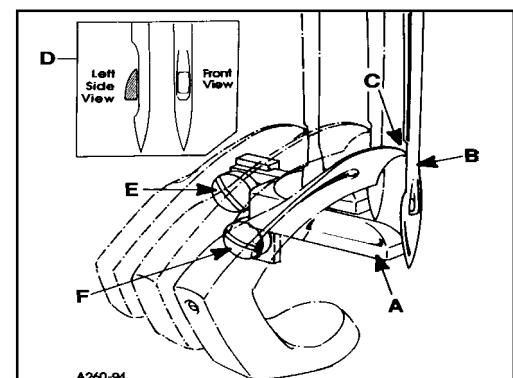
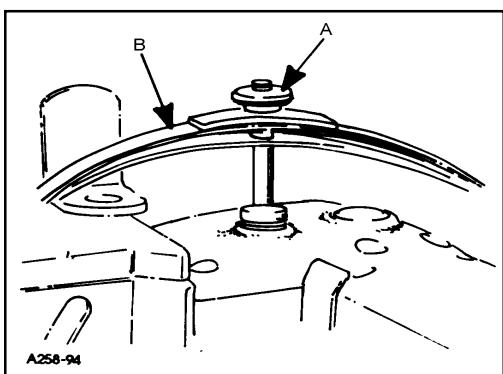
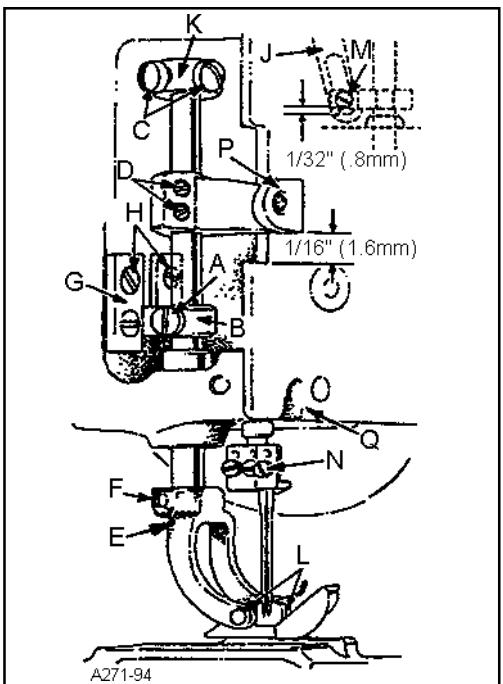

FIG. 13
FIG. 14
FIG. 15
Set the rear needle guard (A, Fig. 13) horizontally to touch and possibly deflect slightly to obtain solid guarding of all needles (B) when at its extreme forward position. If adjustment is necessary loosen screw (E) and move guard front to back as required. It should be set vertically as low as possible, yet have its guarding surface in contact with the needles until the points of the loopers (C), moving to the right, are even with the right side of the needles. If adjustment is necessary loosen screw (F) and move guard and holder up or down as required.
**NOTE:** When installing the needle it should be parallel with the eye in line of feed. If adjustment is necessary, loosen screw (N, Fig. 15) in needle head and rotate needle to attain adjustment (D, Fig. 13).
Remove presser bar leaf spring (B, Fig. 14) and nut (B). Loosen screw (A, Fig. 15) on presser bar guide (B). Loosen screws (C) in upper collar and screws (D) in needle lever thread pull-off lever.. Slide presser bar upward high enough to slip on presser foot yoke (E) with foot attached and tighten screw (F) on flat of presser bar. Position foot so that the needle holes in the foot line up with the holes in the throat plate. Tighten screw (A)
Presser foot guide plates (G, Fig. 15) should be set so that entire presser foot and bar assembly has free movement up and down with no left to right movement.
With foot properly aligned on throat plate and presser bar guide (B, Fig. 15) securely fastened to presser bar, adjust both guide plates (G) to obtain above setting. Tighten four screws (H).
Reinstall presser bar spring (B, Fig. 14) and knob (A), with presser foot resting on throat plate.
The presser foot should be adjusted to be 1/8" (3.17mm) above the throat plate before the feed roller mechanism begins to rise.. Loosen screw (A, Fig. 15) in presser bar lifter and guide (B), raise or lower guide as required to attain the specified point at which the feed roller begins to rise. Retighten screw (A) and maintain needle settings.
**NOTE:** There should be a minimum 1/32" (0.8mm) clearance between screw (M, Fig. 15) and the bottom of the slot in link (J).
Regulate the pressure on the presser foot by turning the presser spring regulating knob (A, Fig. 14) located on top of pressure foot spring (B)..
To remove just the presser foot, remove screws (L, Fig. 15) and replace foot, retighten screws (L).